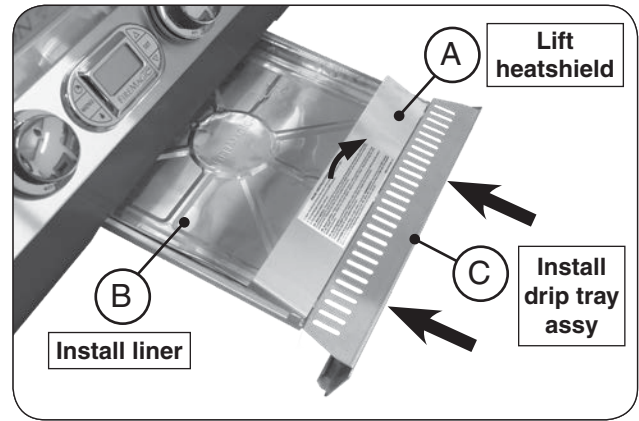
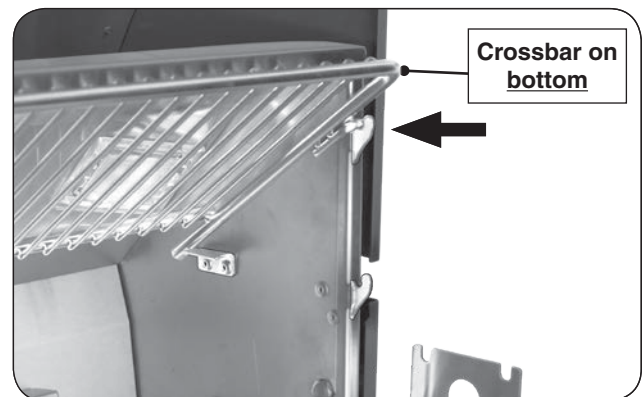

Fig. 23-1 Install drip tray
Fig. 23-4 Place warming rack in storage position
1. Lift the heatshield slightly, then place a liner into the drip tray (Fig. 23-1, A and B).
2. Then fully insert the drip tray assembly into the bottom front opening of the control panel (Fig. 23-1, C).
Use the top hooks for storage (see Fig. 23-1 and Fig. 23-4).